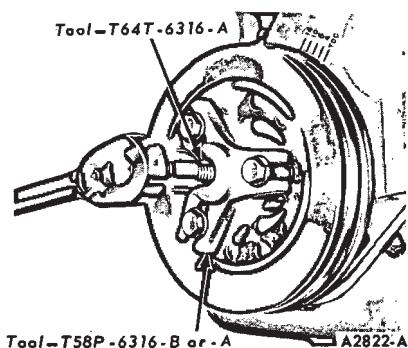

FIG. 17—Removing Crankshaft Damper-Typical
5. Remove the accessory drive pulley (if so equipped) from the crankshaft damper. Remove the cap screw and washer from the end of the crankshaft; then remove the damper (Fig. 17).